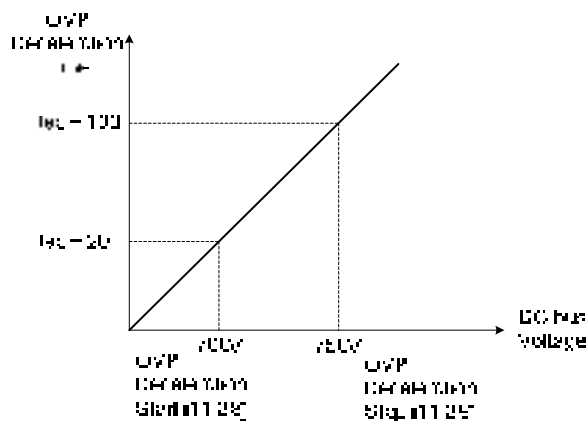

Figure 4.3.92 OVP deceleration time
- (1) DC voltage filter is used to provide a stable reference value for determining the change in DC voltage change during regenerative operation.
- (2) When the inverter is operation at a fixed output frequency, the OVP function will monitor the DC-bus voltage to detect regenerative operation
- When the regenerative energy decreases, the inverter output frequency will return to the actual frequency reference. Deceleration rate is based on the DC voltage, as shown in figure 4.3.92.
(3) When the inverter is stopped, the deceleration rate can be set with parameter 00-15(Tdec1). In case the DC voltage is too high, the inverter will decelerate based on the OVP deceleration time as shown in figure 4.3.92
(4) Parameter 11-40 can enable and disable the OVP function, when 11-40=1, some functions will go back to default setting.
The process of OV prevention mode 2 is the same as that of OV prevention mode 1 but it strengthens more the part of DC BUS over the deceleration stop voltage of OV prevention (11-39) in Fig.4.3.92. It can accelerate frequency compensation to avoid OV protection by increasing frequency gain of OV prevention 2 (11-28).